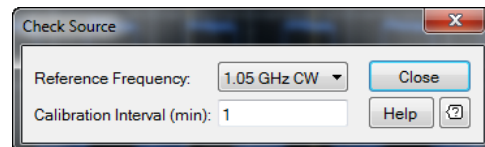

Figure 2-144 Check Source dialog
- 2 The Check Source dialog is displayed as shown in Figure 2-144 to allow you to configure the check source settings.